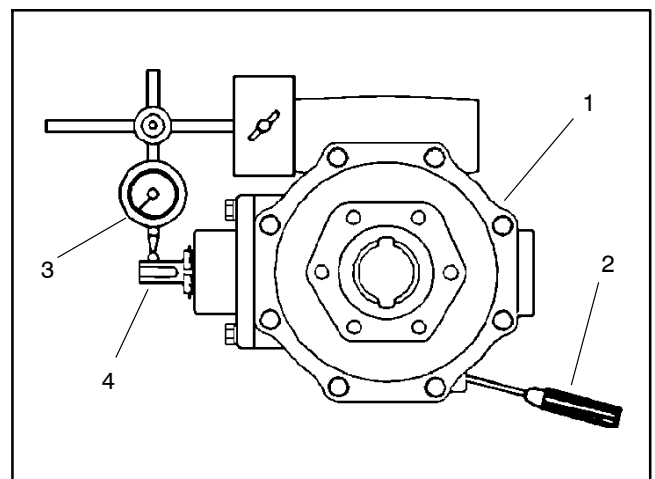

Figure 38
10. Insert a screwdriver through the drain plug hole to hold ring gear and measure the pinion gear to ring gear backlash (Fig. 38).